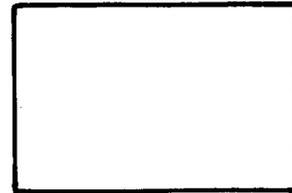

Fig. 11—Process Symbol
2.11 *The process symbol* (Fig. 11) represents any kind of processing function; for example, the process of executing a defined operation or group of operations resulting in a change in value, form, or location of information, or in the determination of which of several flow directions is to be followed.